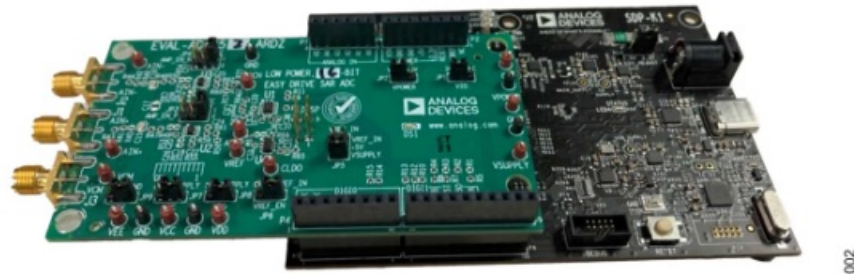

Figure 2. EVAL-AD4052-ARDZ and SDP-K1 Connections
- ▶ The EVAL-AD4050-ARDZ/EVAL-AD4052-ARDZ connect to the SDP-K1 via the Arduino Uno compatible headers (P1 to P4). Plug the headers on the bottom side of the evaluation board to the corresponding headers on the top side of the SDP-K1 (see Figure 2).